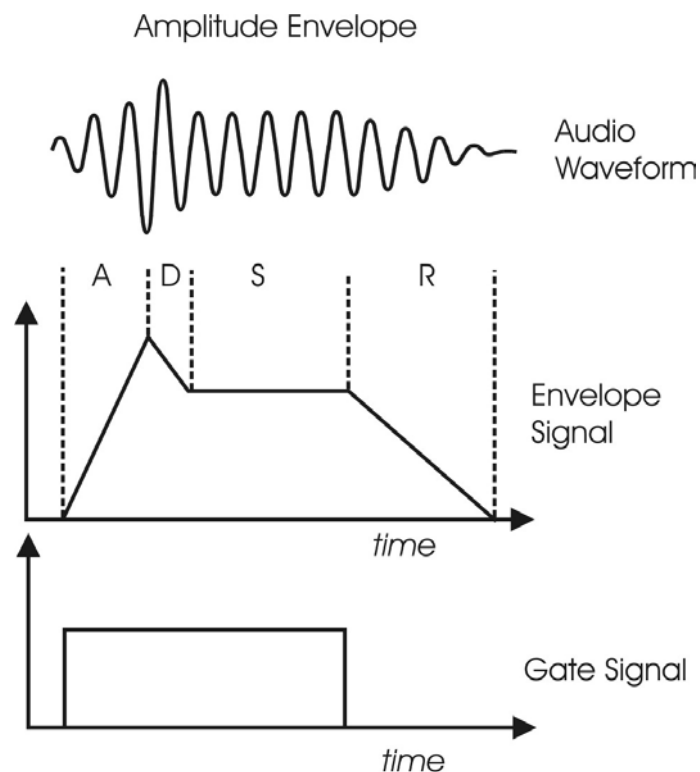

figure 9
**Envelope Generator** - An envelope describes the contours that affect the characteristics of a sound as it evolves in time from its start to its finish. Take a plucked string for example: when a string is plucked, its amplitude is suddenly very loud, then dies out gradually. The initial part of the sound is very bright but then the brightness fades away. The frequency of the sound goes slightly higher and then drops slightly as the note fades. These kinds of changes in a sound over time can be applied to oscillators, filters or the amplitude of an electronically generated sound by an envelope generator. The envelope generator creates a CV that describes the contours of a sound. *Attack*, measured in time, specifies the onset or transient of a sound. With Volume for instance, the sound might start suddenly as does a plucked string sound, or fade in slowly like a bowed string crescendo. *Decay* is also measured in time and specifies how quickly the onset of a sound fades into the sustained portion. *Sustain* is the level at which a sound sustains after the initial transient. *Release* is measured in time and determines how long a sound takes to fade away after a note is released. These four components make up an ADSR envelope generator. An envelope control signal has to be started and stopped. The start and stop is triggered by what is called a *gate signal*. A gate signal is either on or off. When it goes on, the Envelope generator is started, when the gate goes off, the release segment of the envelope begins. (figure 9)